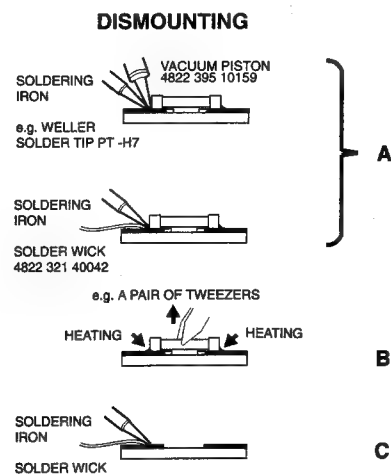

Fig. 4.1
- While holding the SMD with a pair of tweezers, take it off gently using the soldering iron's heat applied to each terminal (see Fig. 4.1 B).